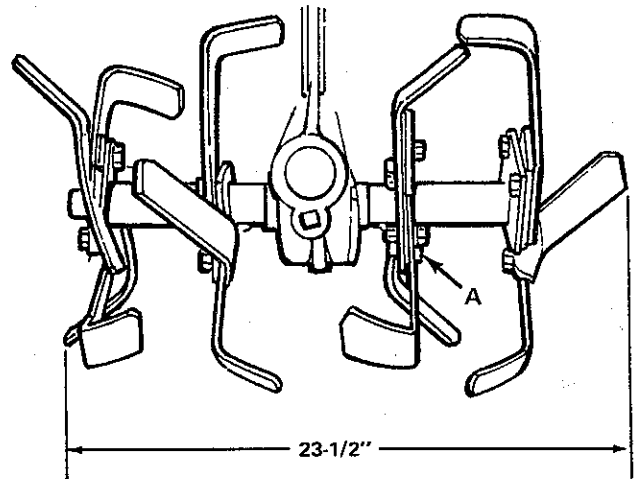
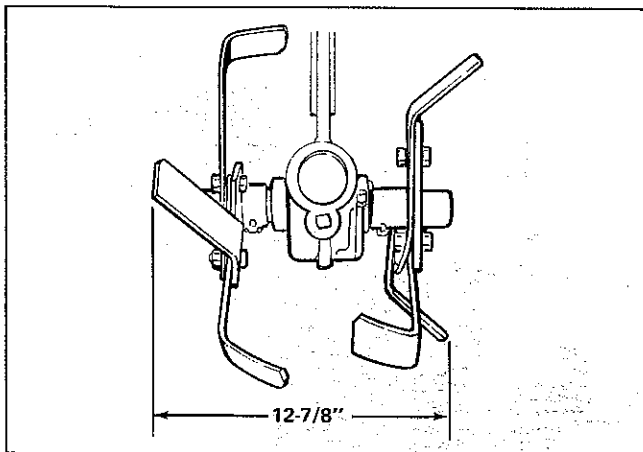

Figure 2. Roticut Set Up With Standard Tine Arrangement
Figure 3. Roticul With Outer Tines Removed
b. Figure 2 shows the Roticut with the standard tine arrangement which gives a tilling width of 23-1/2 inches. The two outer sets of tines can be removed to narrow the width to 12-7/8 inches if desired. Simply remove the mounting pins (A, Figure 2) on each side of the Roticut, then remove the outer set of tines. Figure 3 shows the Roticut with the outer set of tines removed to give a tilling width of 12-7/8 inches.